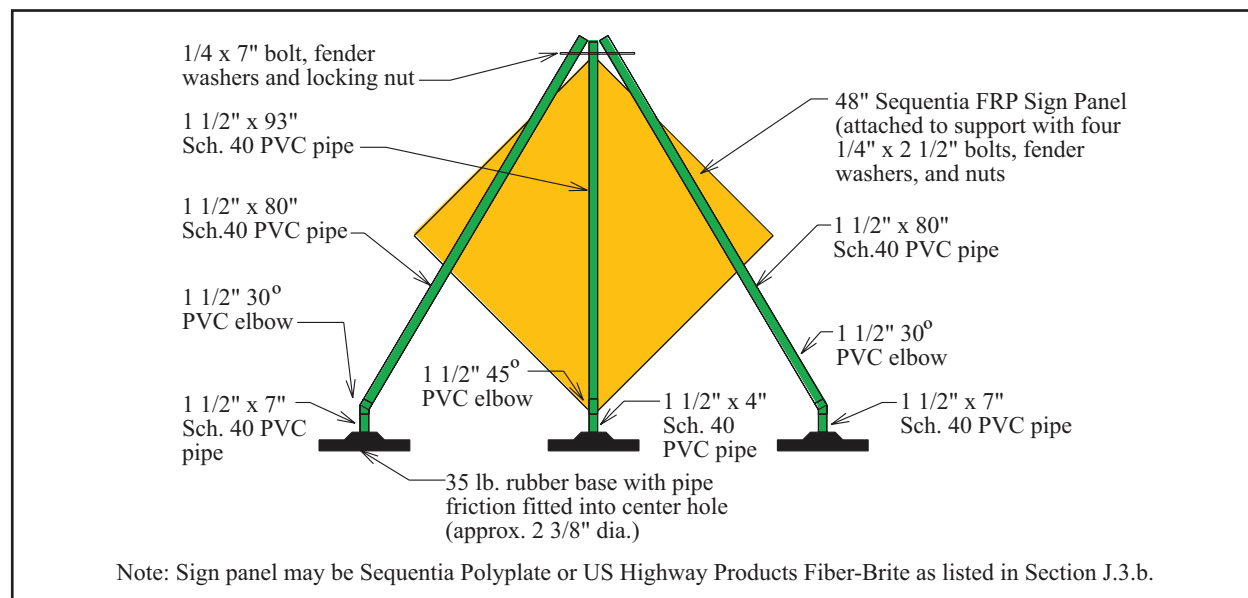

Figure J-9. JB Witt PVC sign support
- ❖ JB Witt PVC sign stand (Figure J-9) with Polyplate (Sequentia) or Fiber-bright (US Highway Products) sign panel.